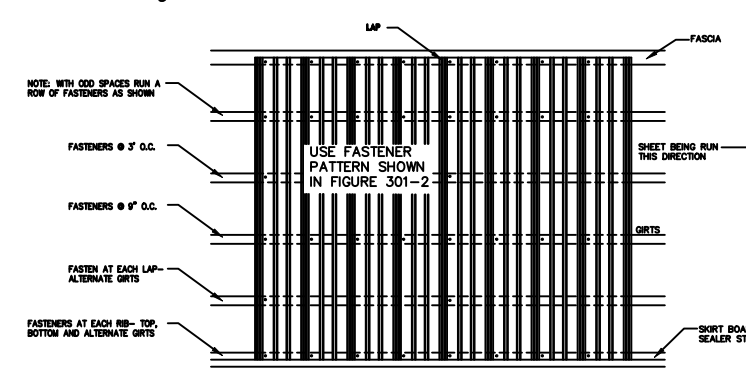

Figure 300-3
6. The sheets must be started and overlapped correctly. See the fastener pattern, figure 300-3.